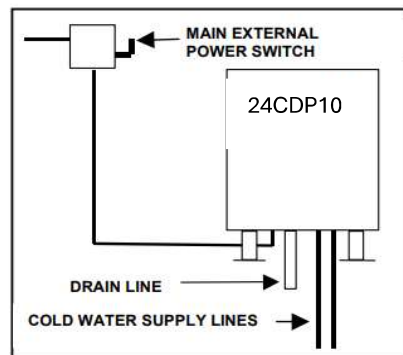

Figure 5-1 Main External Power Switch
3. Refer to the main external power switch in Figure 5-1 and turn on electric power to the steamer.